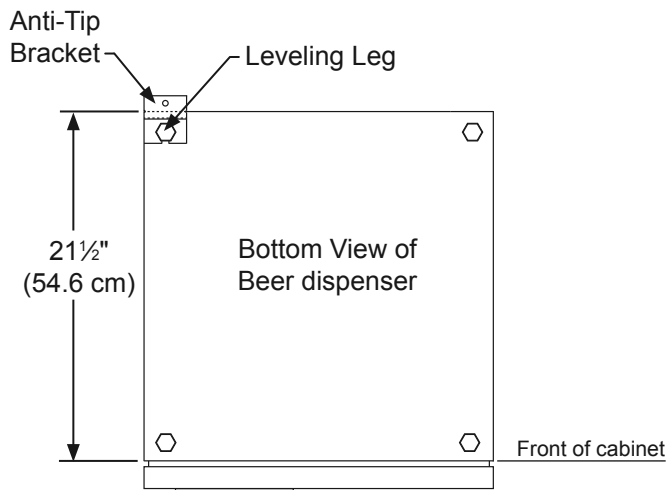

Figure 6
The anti-tip bracket is to be located on the floor in the left or right rear corner of the beer dispenser as shown in Figure 6.
- 3) Make sure the beer dispenser is in the desired location, then mark on the floor the rear and side corner of the cabinet where the anti-tip bracket will be installed. If the installation does not allow marking the rear corner of the cabinet, then make temporary lines on the floor marking the front corner of the cabinet, excluding the door. Slide the beer dispenser out of the way. From the temporary line extend the sidewall line back 21 1/2" (54.6 cm) as shown in Figure 6.